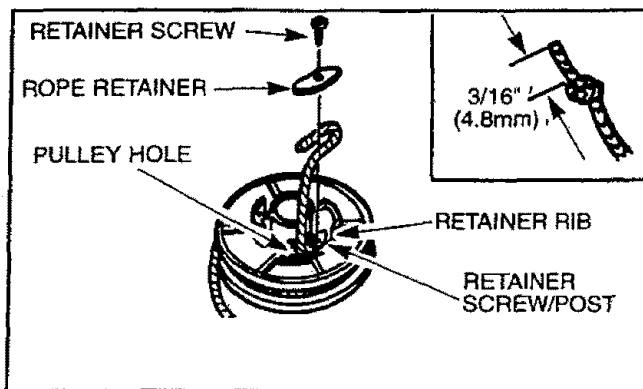

Figure 20
- Remove broken piece of rope, if any. Figure 20.
- Hand turn the pulley counterclockwise as far as it will go. Then, turn the pulley clockwise until the pulley notch is aligned with the housing notch next to the retaining tab and screw. Figure 20.
- Insert the small hex wrench into hole formed by the notches to hold pulley in position. Figure 20 (inset).
- Insert one end of the rope through the handle and secure with a knot. Leave a 3/16 inch (4.8mm) tail behind the knot. Figure 20 (inset).
- Insert one end of the rope into the pulley and up through the pulley hole. Figure 20.
- Leave a 1 inch (2.5cm) tail laying between the retainer rib and the retainer screw post. Figure 20.